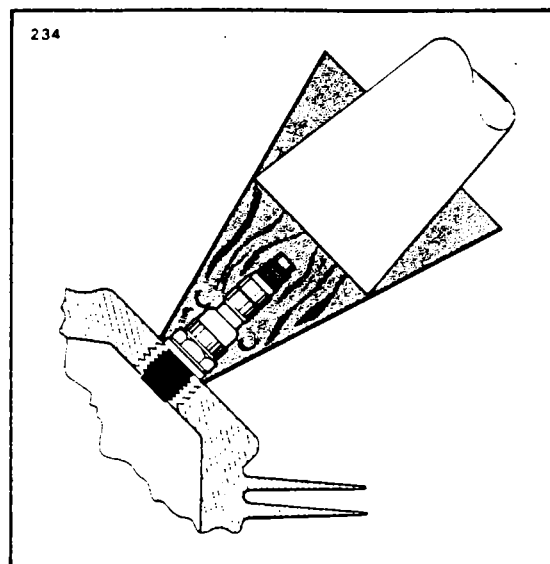

Figure 7-12. Removing Spark Plug Frozen to Bushing
d. Removal of seized spark plugs in the cylinder may be accomplished by application of liquid carbon dioxide by a Conical metal funnel adapter with a hole at the apex just large enough to accommodate the funnel of a CO2 bottle. (Refer to Figure 7-12.) When a seized spark plug cannot be removed by normal means, the funnel adapter is placed over and around the spark plug. Place the funnel of the CO2 bottle inside the funnel adapter and release the carbon dioxide to chill and contract the spark plug. Break the spark plug loose with a wrench. A warm cylinder head at the time the carbon dioxide is applied will aid in the removal of an excessively seized plug.